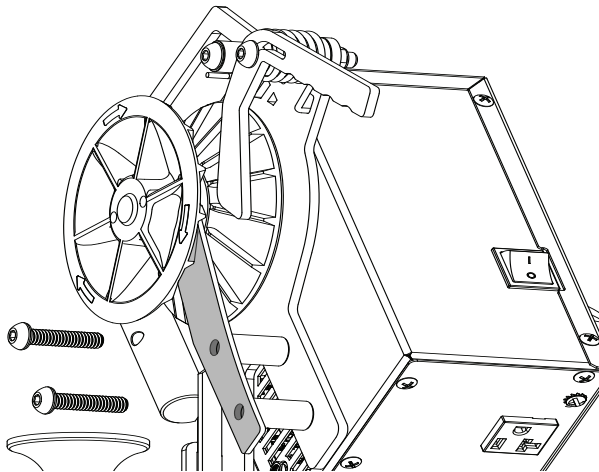

Figure 8
3. Remove the rope extraction guide by removing the two bolts securing it to the frame. (Fig.8)